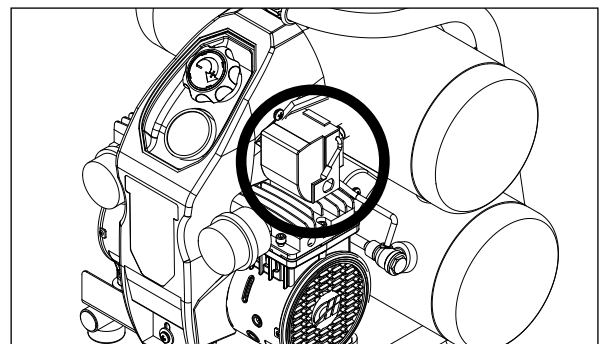

Figure 2
Pressure Switch - Auto On/Off Switch - In the "Auto On" position, the compressor shuts off automatically when tank pressure reaches the maximum preset pressure. After air is used from the tank and drops to a preset low level, the pressure switch automatically turns the motor back on. In the "Off" position, the compressor will not operate. This switch should be in the "Off" position when connecting or disconnecting the power cord from the electrical outlet. (Figure 2)
1. If the plug on the electrical cord of the unit is unfamiliar to you or will not fit your particular receptacle, Figure 2 will help you understand why by illustrating the different plugs and the voltages they are to be used with.